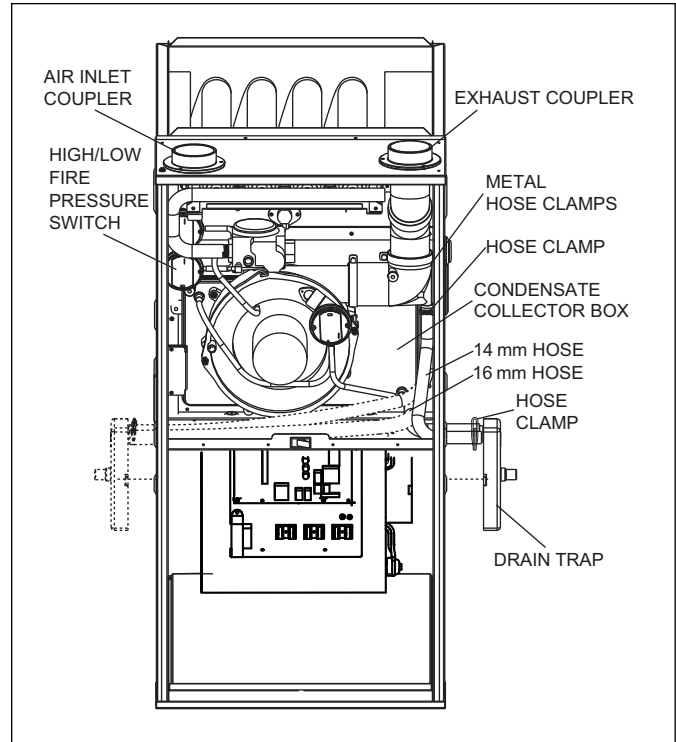

Figure 15 Upflow Installation, Top Venting
5. Connect Φ 16 mm hose between condensate collector box and drain trap and connect Φ 14 mm hose between inducer drain port and drain trap. (see Fig. 15).